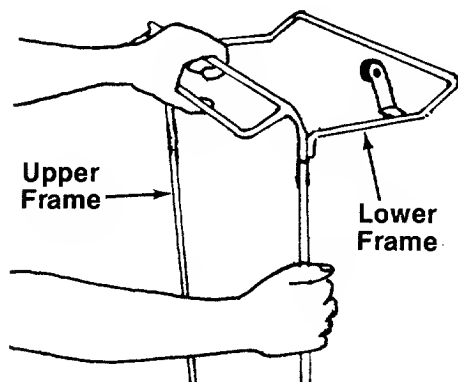

FIGURE 12.
1. Join the upper frame and lower frame assembly as shown in figure 12.